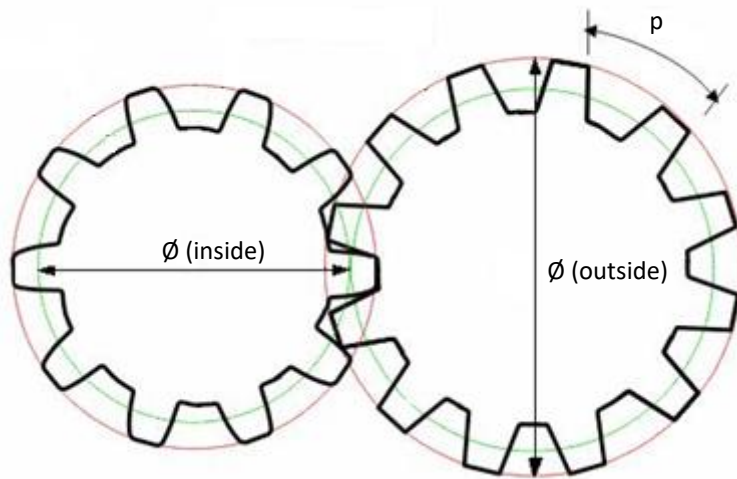

Figure 6: Gear system
b. Describe the gear system given in Figure 6 in terms of diameter and pitch.